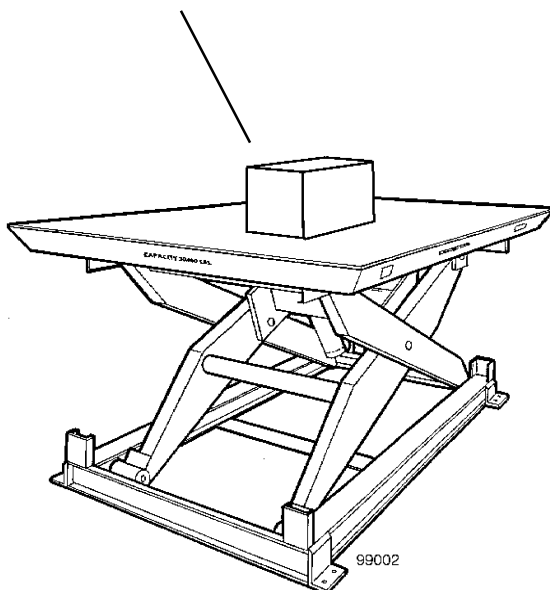

Fig. 4 – Center the Load
- Place the load in the center of the lift table, as shown in Figure 4.